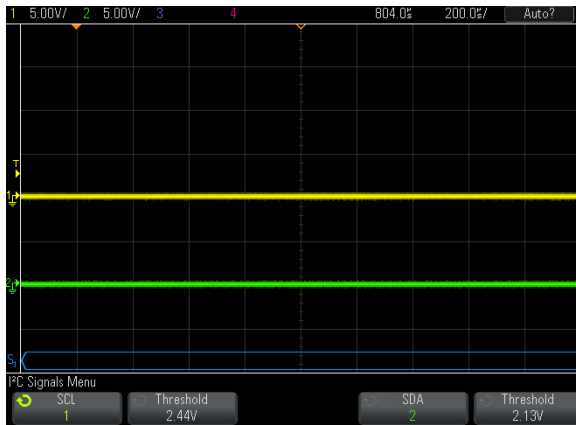

Figure 5: Keysight I²C input settings
9. Press the third softkey from the left labeled “Signals”. This brings up the screen shown in Fig. 5. The current settings for which channel is clock (SCL) and which is data (SDA) is shown along the bottom of the screen. Use the softkeys below the channel destinations and the selector knob to change these to match how you connected the probes to the hardware under test.